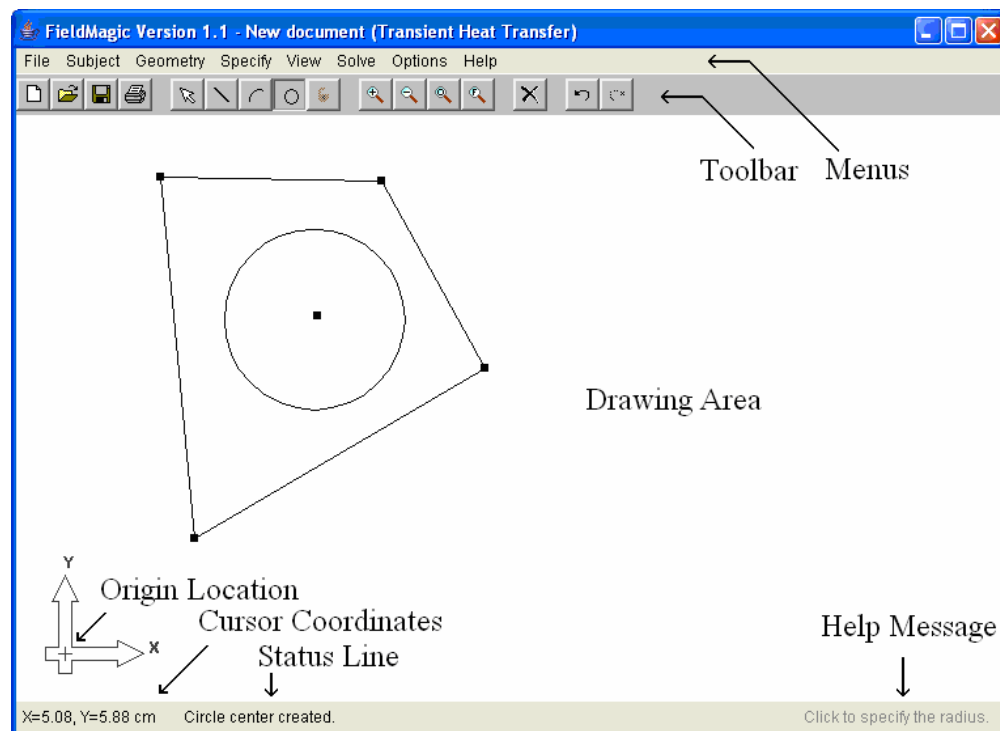
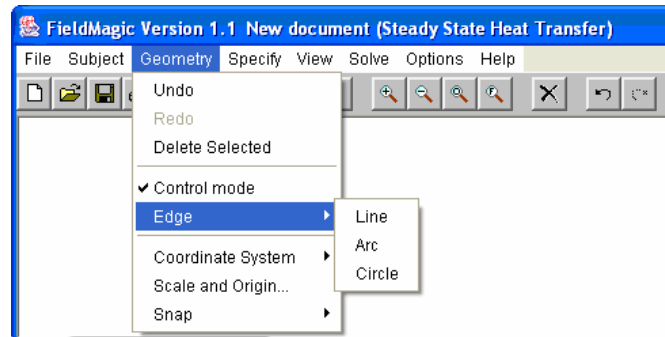
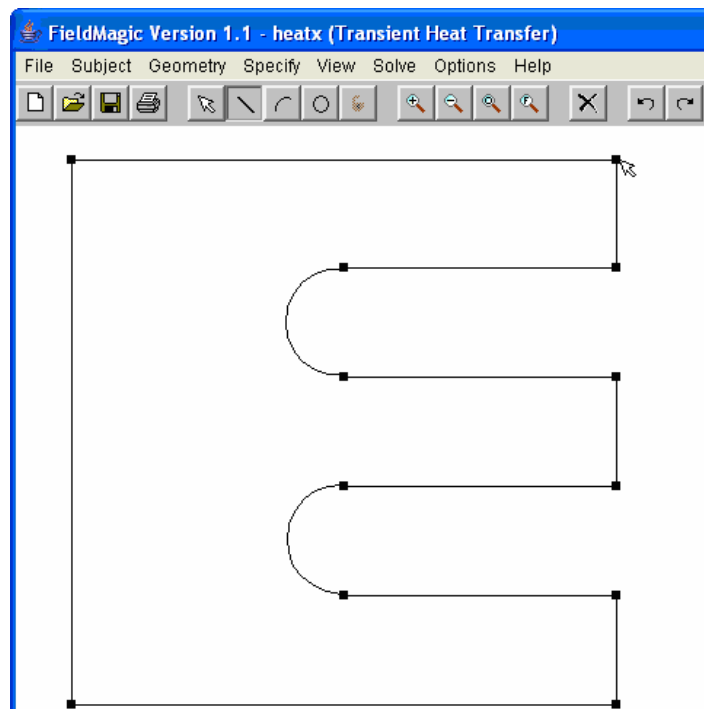
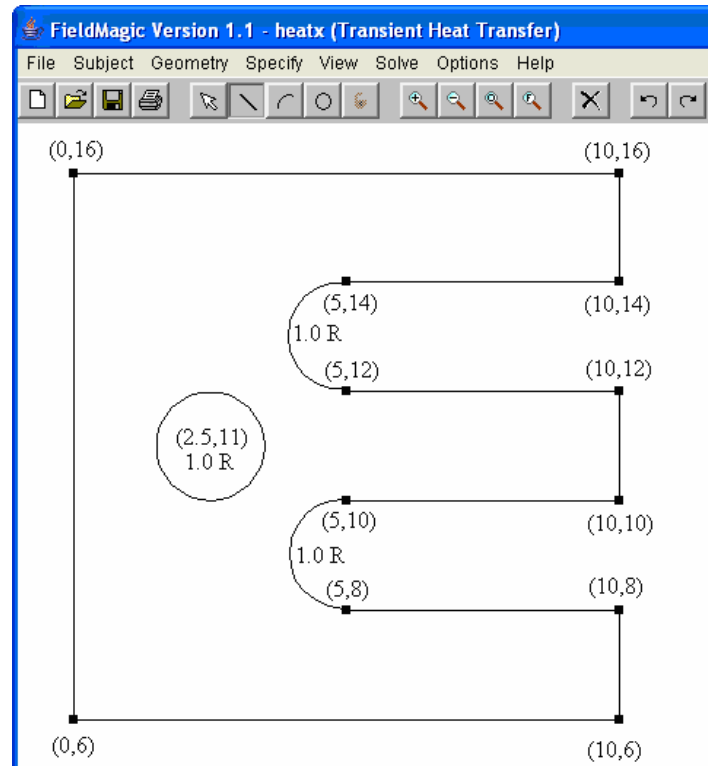

Figure 1. The FieldMagic graphic user interface
Figure 13. To draw edges, select the desired edge type from the “Edge” sub-menu in the “Geometry” pull-down menu
Figure 14. Finish the contour by clicking on the first point
Figure 15. Adding a circle contour to the geometry (coordinates are added so the reader may follow along, see Section 4.2 “Moving Vertices”)
- Intuitive graphical user interface for problem definition (Figure 1)
Once the subject is set, the next step is to create the geometry of the problem. FieldMagic supports the creation of closed regions, called contours, bounded by lines, arcs, and circles. Line edges require two vertices - a start point and an end point. Arc edges require a start point, an end point, and another point on the arc. Circle edges require the center and a point on the circle. To draw an edge, either select the type from the “Edge” sub-menu in the “Geometry” menu (Figure 13), or push the corresponding edge toolbar button. For lines and arcs, clicking once in the drawing area creates the start point and clicking again places the end point. If arcs are being drawn, the third click places a point on the arc. The end point of the previous edge is automatically set as the start point of the next edge. Shapes can be drawn with both lines and arcs by selecting the appropriate drawing method and continuing to click. Only closed contours are allowed in FieldMagic. To close the contour, simply click on the original start point to create an edge segment that will close the shape (Figure 14). To draw a circle, first click the center location and then click to set a point on the circle (Figure 15). Circle edges are automatically closed contours. FieldMagic does not support overlapping edges and will show an error message in the status line when placing a new point results in an invalid geometry. The current coordinates of the mouse cursor are shown in the lower left corner of the FieldMagic user interface window (Figure 1). While in drawing mode, before a contour is completed, right clicking removes the last point and allows drawing of the contour to continue.